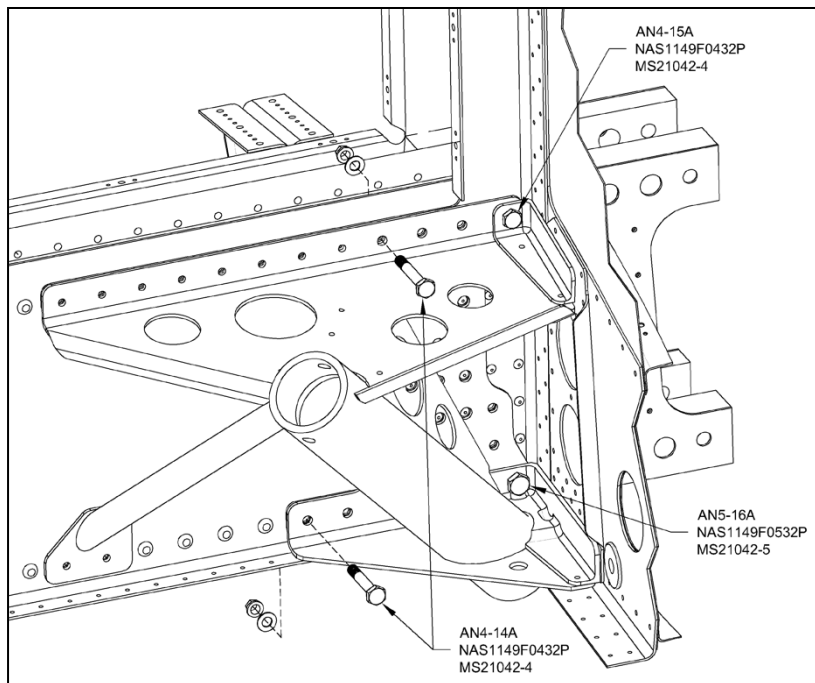

FIGURE 11: TEMP INSTALL THE GEAR LEG WELDMENT
Step 31: Enlarge the hole in the bottom skin just enough to clear the bottom end of the new gear leg weldment socket (an additional $1/16$ " should be a good start), then bolt the gear leg weldments in place on the center section using the four bolts shown in Figure 11. Use a drilling lubricant such as 'Boelube' on the shank of the bolts to ease installation but be sure not to get any on the threads. Tighten the nuts to the correct installation torque.